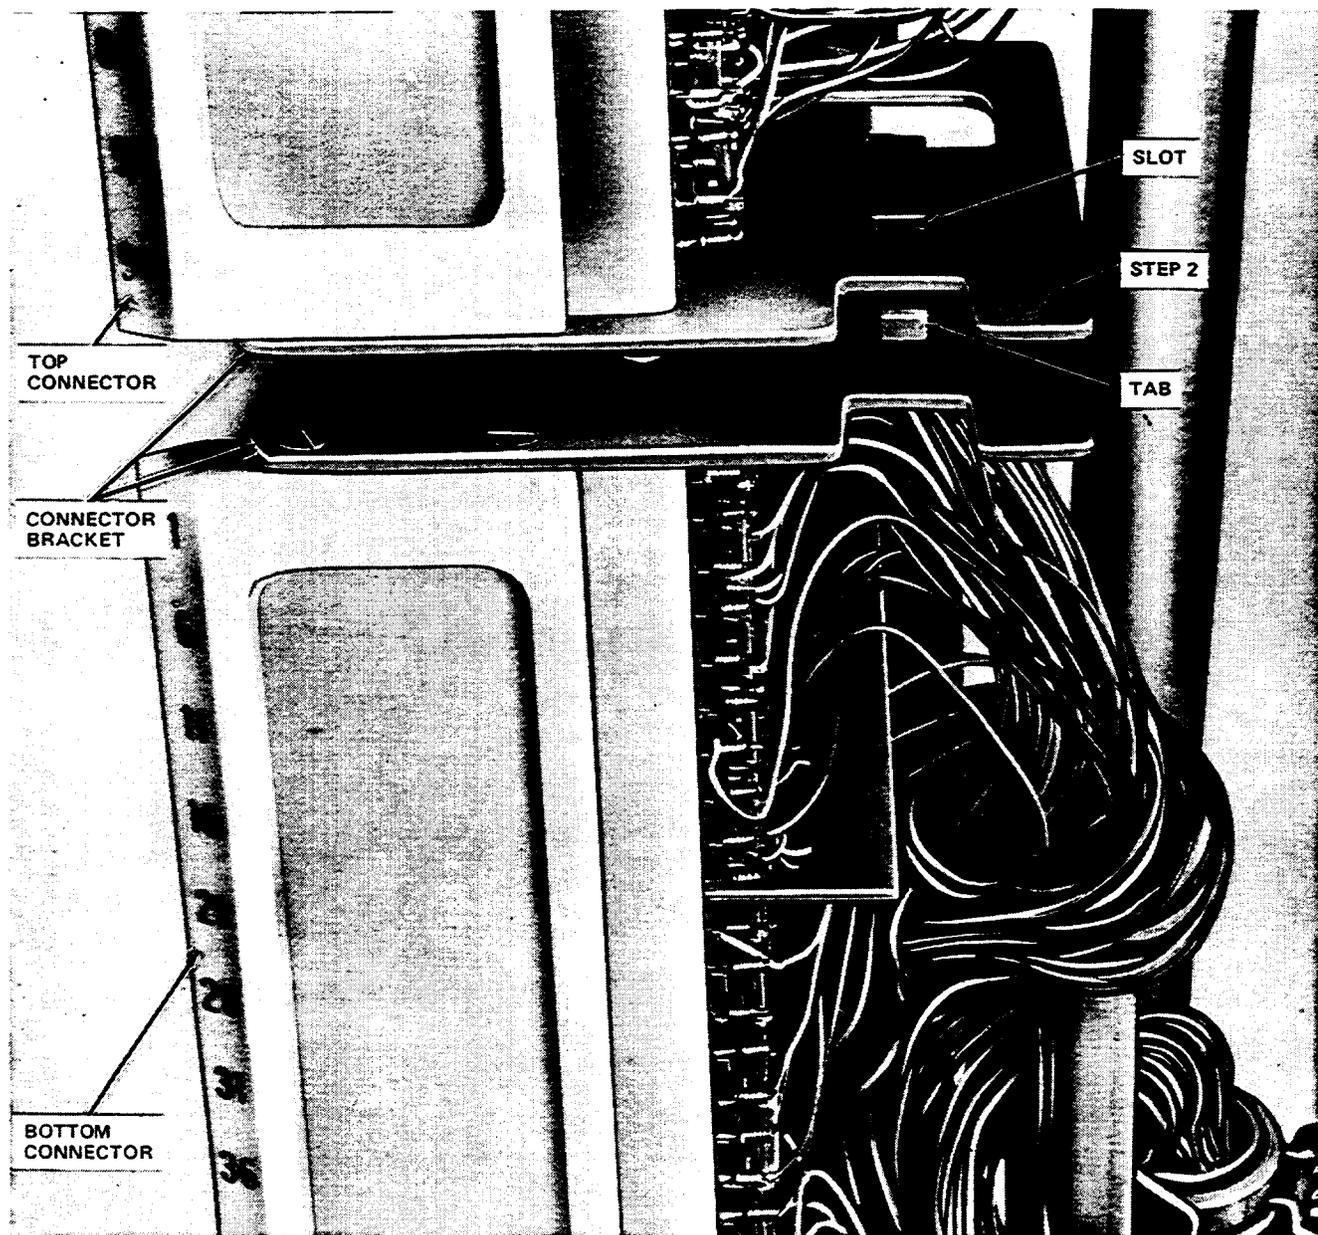

Figure 15—Aligning Bottom Tab Connector With Slot on Top Connector
(1) See Figure 15 for the number that corresponds to the following step.
(2) Check to ensure that the tab in the bottom connector is in alignment with the slot in the top connector.